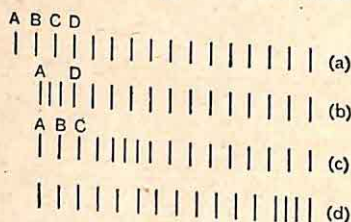

FIG. 74.
(2) **A new type of wave motion.**—The strokes A, B, C, D . . . , Fig. 74 (a), represent adjacent turns of the spring. If A is pushed forward *suddenly* only the few turns near this end are compressed (b). But the spring cannot remain permanently in this condition and the recovery of A, B, C causes the neighbouring turns to be compressed (c). Thus, in time, this state of compression of a few turns passes from one end to the other (d).